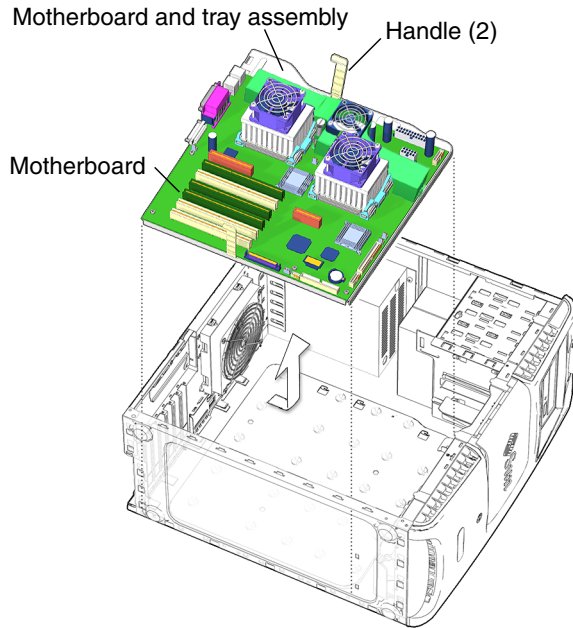

FIGURE 11-39 Removing the Motherboard and Tray Assembly
12. Remove the motherboard and tray assembly (FIGURE 11-39).